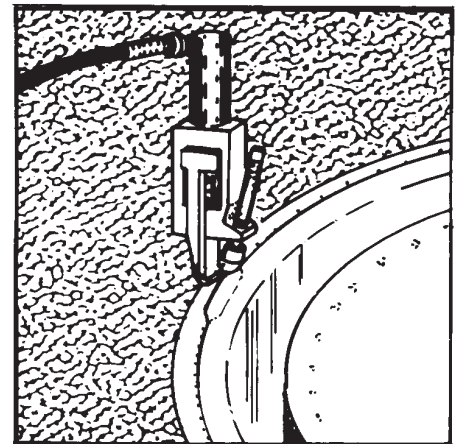

FIGURE 1
3. Find the pry bar slot on the rim. Place the Bead Breaker's hook into this slot. Adjust the screw on the Bead Breaker so the tool will be perpendicular to the wheel while applying force. See Figure 1.